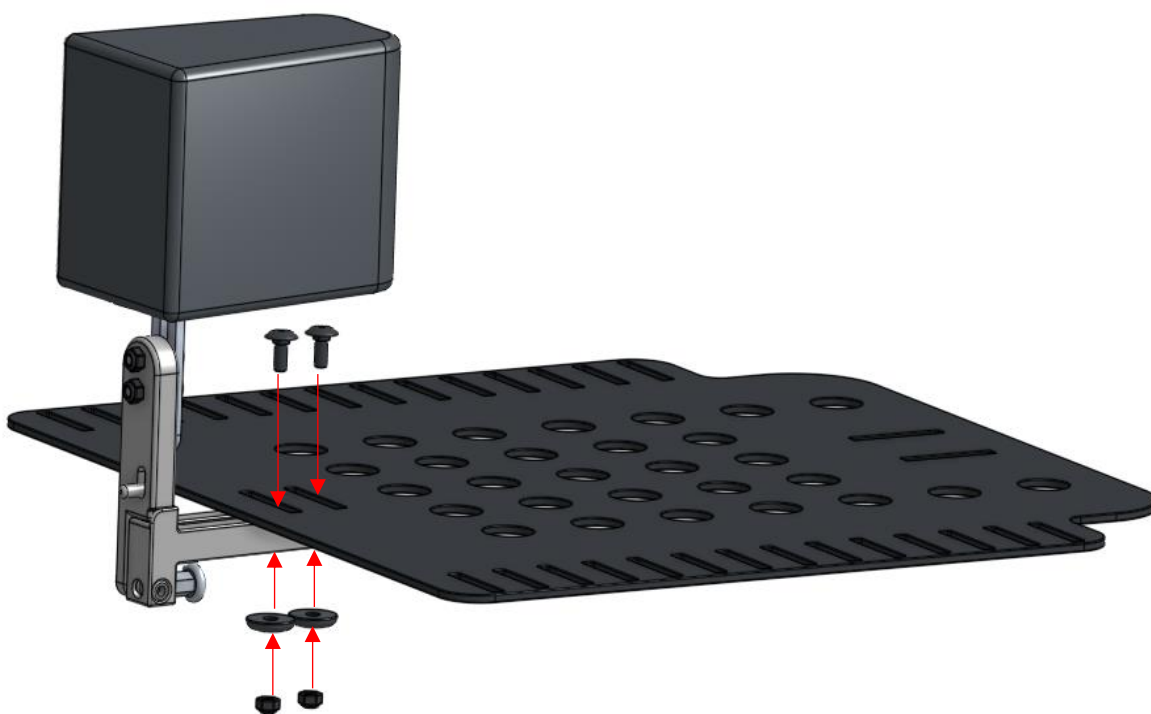

Fig 2
2. To adjust the height of the Medial Thigh Support, loosen the two nyloc nuts (Fig 2 – A) with a 10mm spanner. This will enable the height of the Medial Thigh Support to be adjusted. Install the wheelchair cushion in the desired position on the seat pan then lower the Medial Thigh Support pad until it mildly compresses the top surface of the cushion. Firmly lock the two nyloc nuts again to set in position.
3. To adjust the depth of the Swing-down Medial Thigh Support, loosen the two nyloc nuts (Fig 2 – B) on the underside of the Swing-down Medial Thigh Support bracket which attaches it to the seat pan. Once loosened the depth & orientation of the Medial Thigh Support may be set. Firmly lock the two nyloc nuts again to set in position.